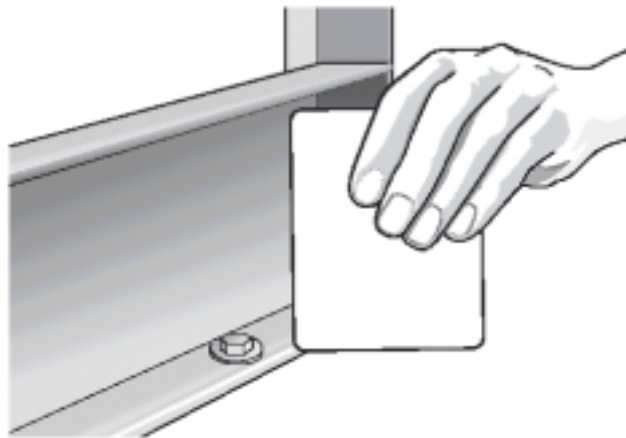
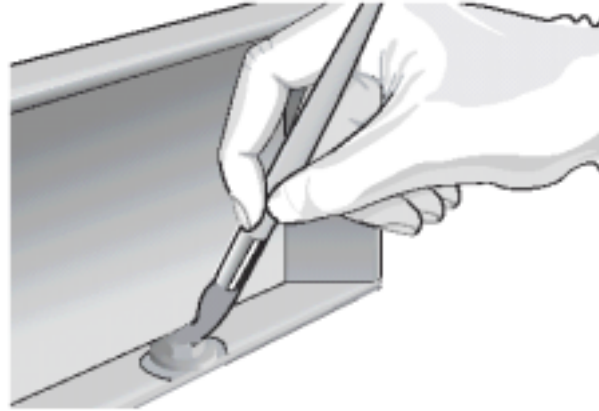

Figure 5.3 – Sealing Rack Frames
Figure 5.4 – Coating Rack Hardware
- 5.7 In facilities where a battery rack is already installed, use a spreader or putty knife to seal the base of the battery rack with Adhesive as shown in Figure 5.3. Using a brush, apply Adhesive to the battery rack anchoring hardware as in Figure 5.4.
- 6.9 In installations where Coating is installed before the battery system, racks may be positioned only after the Coating has been completely cured. If a leak test is to be performed, it also must be completed satisfactorily prior to rack installation. Do not load the racks with batteries until the Coating has had at least one week to completely cure. Once the battery racks have been installed, obtain an Acran Leak Repair Kit (part number 5LRK0001) and use it to seal the frames (Figure 5.3) and anchors (Figure 5.4).